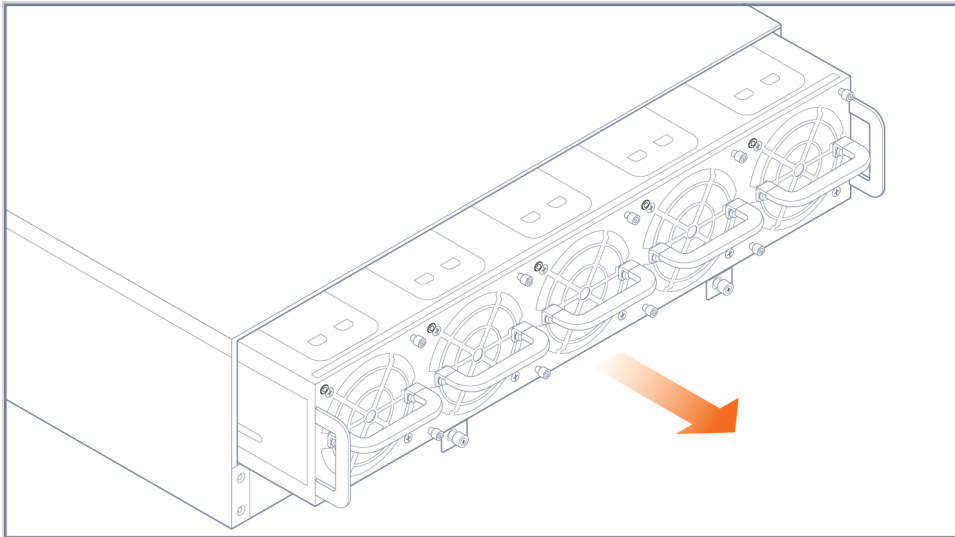

Figure 11: Fan Tray Removal
3. Pull the failed fan tray out of the slot and set it aside. Refer to Figure 11: Fan Tray Removal on page 80.